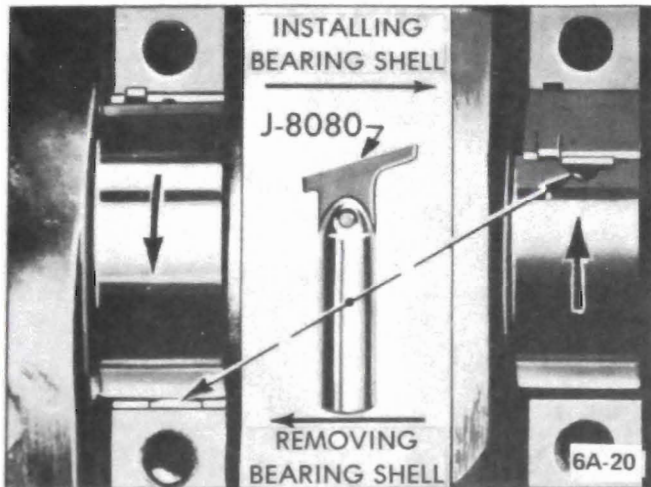

Figure 6A-20 Removal and Installation of Crankshaft Bearing (Upper Shell)
7. Remove upper bearing shell by inserting Bearing Shell Remover and Installer J-8080 in oil hole in crankshaft. Then slowly rotate crankshaft so that tool rotates the shell out of place by pushing against end without tang. See Figure 6A-20.